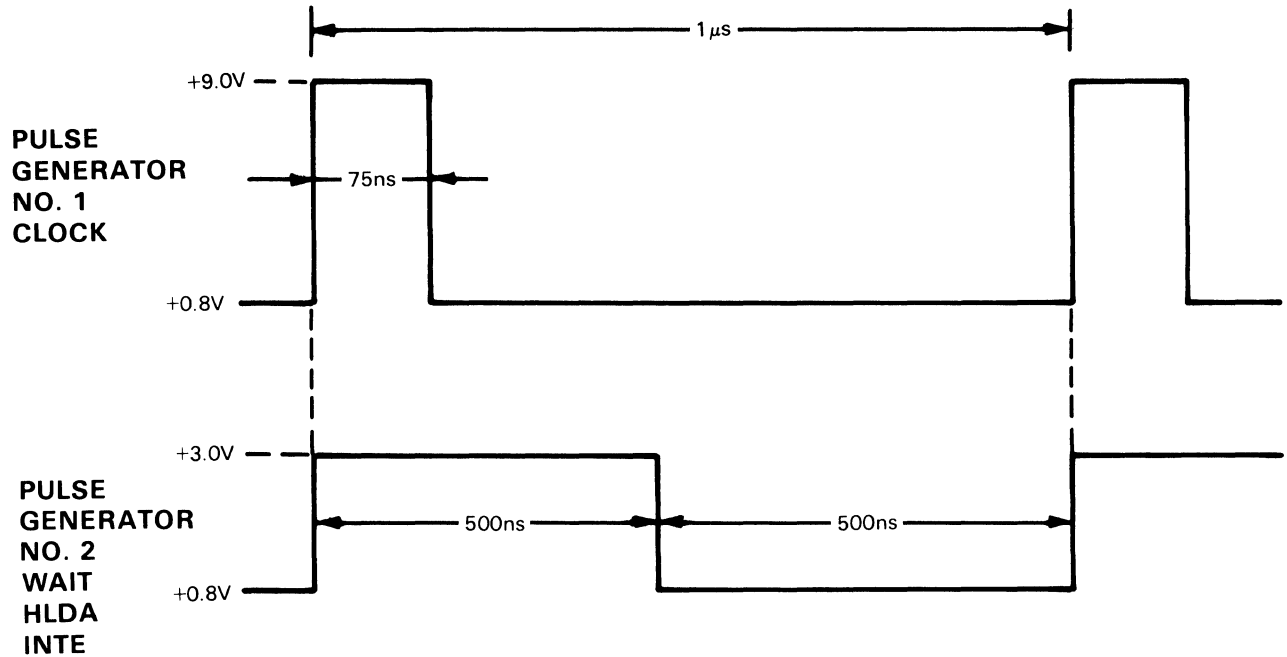

Figure 4-5. Wait, HLDA, and Inte Test Waveforms
- d. Adjust pulse generators for waveforms shown in figure 4-5.